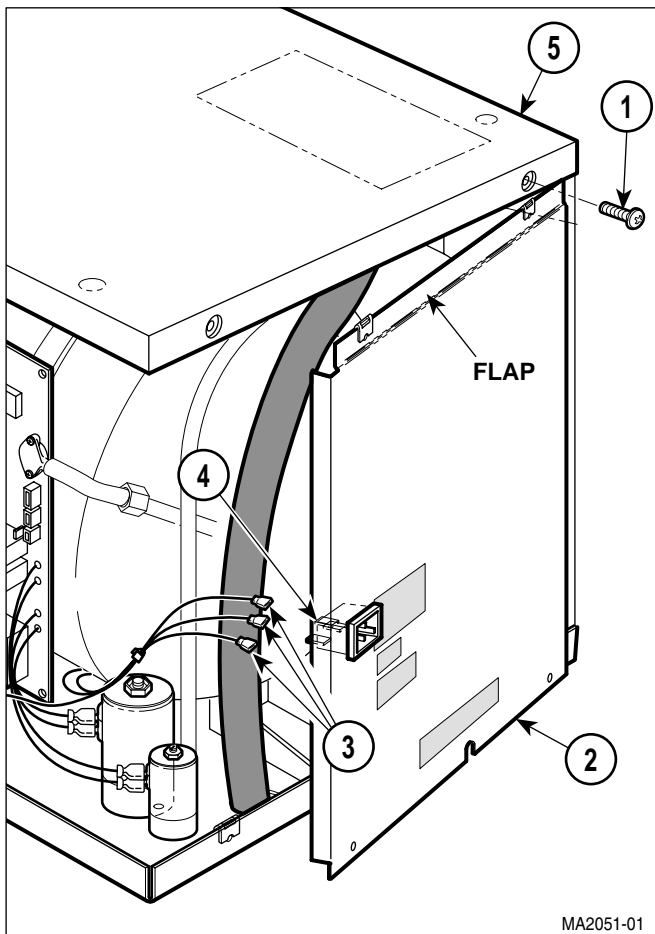

Figure 4-4. Back Panel Removal / Installation
- (1) Disconnect power cord from sterilizer.
- (2) Remove right hand side panel (Refer to para 4.3).
- (3) Remove left hand side panel (Refer to para 4.4).
- (4) Remove four screws (1, Figure 4-4) from back panel (2).
- (5) Partially remove back panel (2) by simultaneously pulling downward and outward on back panel.